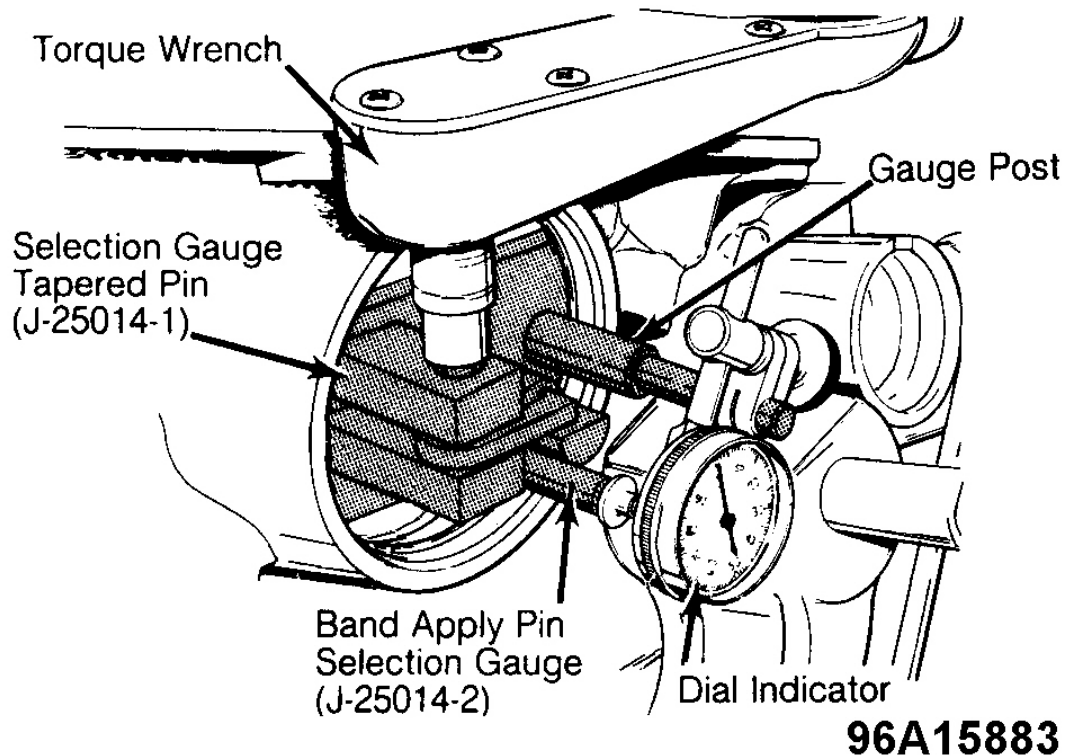

Fig. 6: Intermediate Band Apply Pin Selection
1. Install Band Apply Pin Selection Gauge (J-25014-2) in intermediate servo bore and retain with servo cover retaining ring, aligning ring with gap at case slot. Install Selection Gauge Tapered Pin (J-25014-1) into gauge. See Fig. 6.